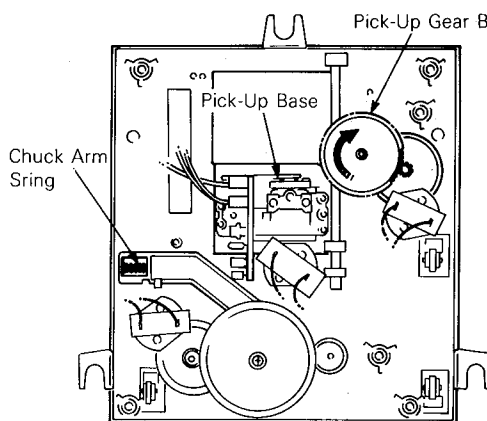

Fig. 5
- c) Remove the Chuck Arm Spring. (Fig. 5)